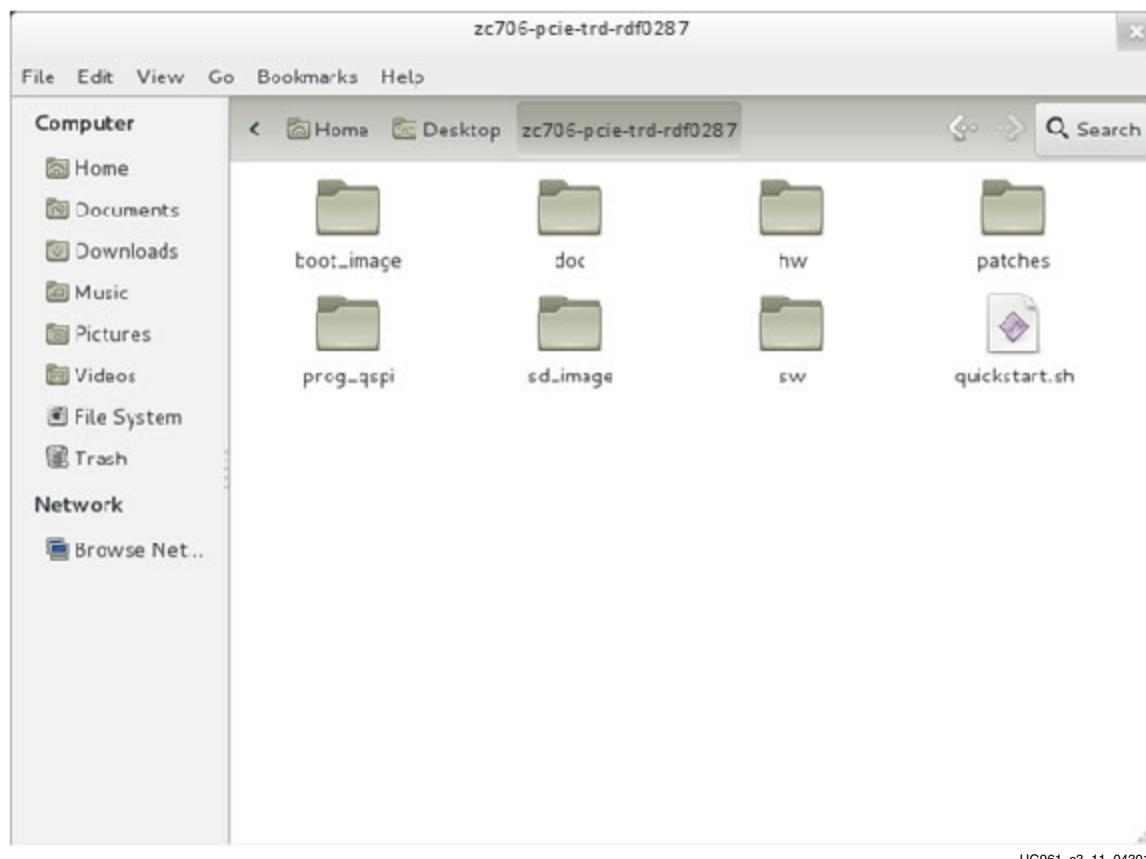

Figure 3-11: **Directory Structure of zc706-pcie-trd-rdf0287**
3. Download `zc706-pcie-trd-rdf0287.zip` from www.xilinx.com/zc706 and copy it to specific `/tmp` folder of PCIe host PC. Unzip the file. Change permission by typing **chmod 755 -R zc706-pcie-trd-rdf0287** on a terminal so the files have execution permission. Double click on the copied `zc706-pcie-trd-rdf0287`. The screen capture in Figure 3-11 shows the content of the `zc706-pcie-trd-rdf0287` folder.